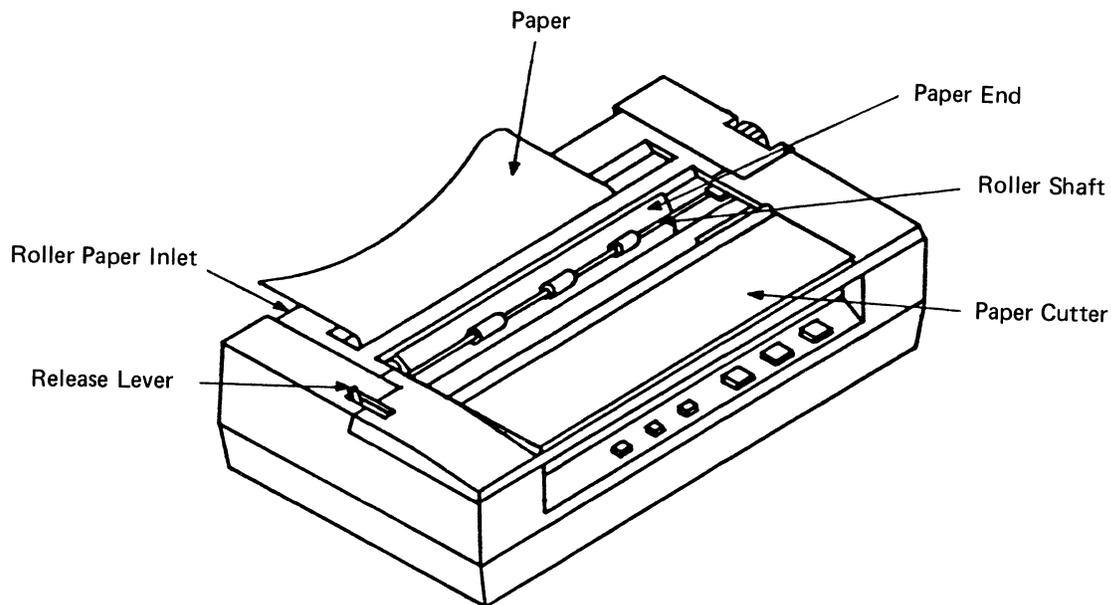

Fig. 10
- (1) Open the paper cutter, and pull the roller shaft toward the front.
- (2) Move the head carrier to the left end.
- (3) Turn the release lever toward the rear.
- (4) Insert the paper into the paper inlet on the paper cover (behind the paper cover for roll paper). When the paper end appears on the platen, set the paper properly, turn the release lever toward the front (to the "frinction feed" position), and reposition the roller shaft and paper cutter. (See Fig. 10.)